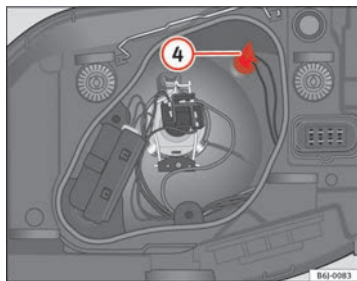

Fig. 145 Side lights
- Remove the bulb holder ④ ⇒ fig. 145 outwards.